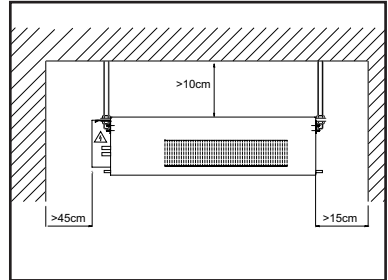

Fig.1
- Comply with the minimum space for installation and maintenance indicated in **Fig.1**.